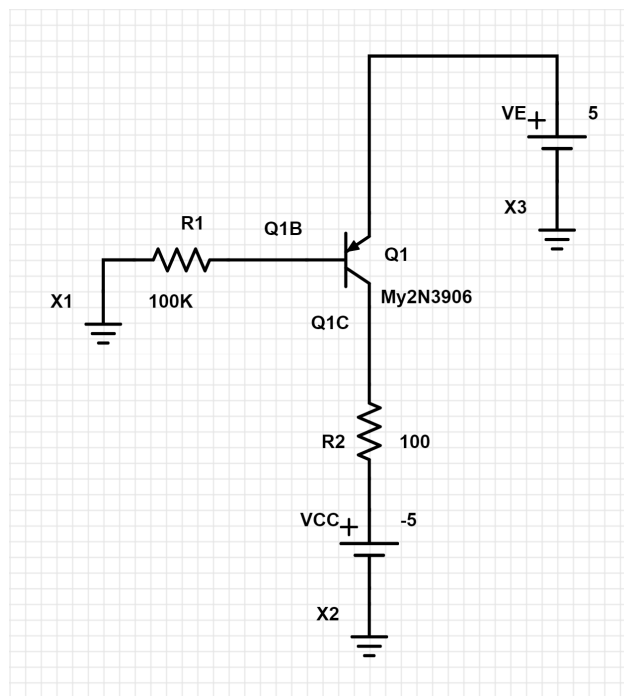

Fig. 3 The schematic diagram for the DC characterization of a PNP-BJT 2N3906
- 2.1 In Avenue to Learn, *Lab 1: Device Characterization and Biasing Circuits*, follow Video 2.1 to Video 2.3 to prepare the circuit diagram as shown in Fig. 3 to characterize a PNP-BJT 2N3906.